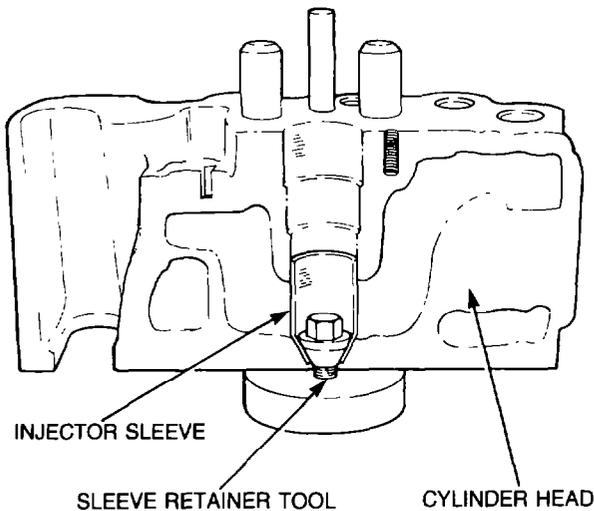

Figure 7 — Fuel Injector Sleeve Retainer — Installation
- i. Withdraw special tool ST-1227 and install special tool ST-1179 to secure the fuel injector sleeve into the cylinder head (see Fig. 7), then torque the bolt to 47-54 Nm (35-40 lb.ft).